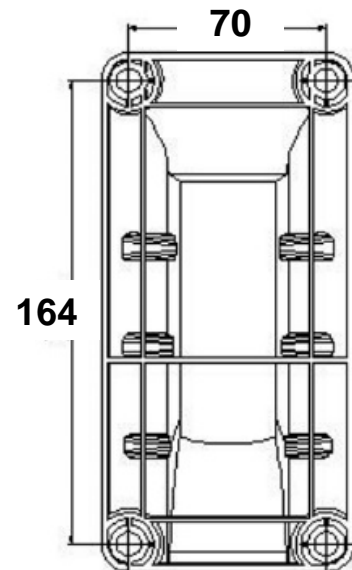

Fig.2
3. Take the mounting bracket as a template to mark the position for dowels and drill four holes on the wall (Fig.2)